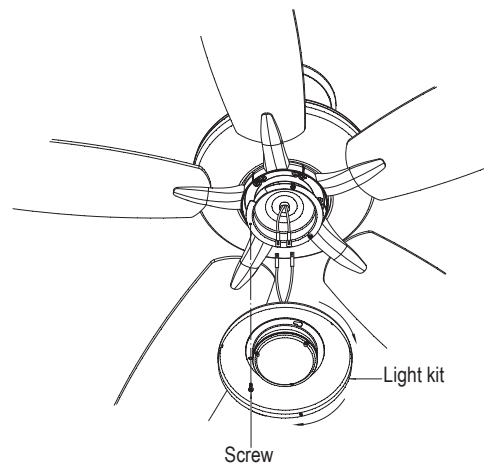

Fig. 16
Step 1. Loosen the three mounting screws on the inside of the LED light kit. (Fig. 16)
Step 2. While holding the LED light kit under the fan motor, make the wire connections. (Fig. 16)
Step 3. Tuck the connections neatly into the light plate. Place the key holes on the LED light kit over the 2 screws previously loosened from the light plate, turn the LED light kit until it locks in place at the narrow section of the key holes. Secure by tightening all three screws. (Fig.16)
Warm weather - Forward (counter clockwise) A downward airflow creates a cooling effect as shown in Fig. 16. This allows you to set your air conditioner on a warmer setting without affecting your comfort.